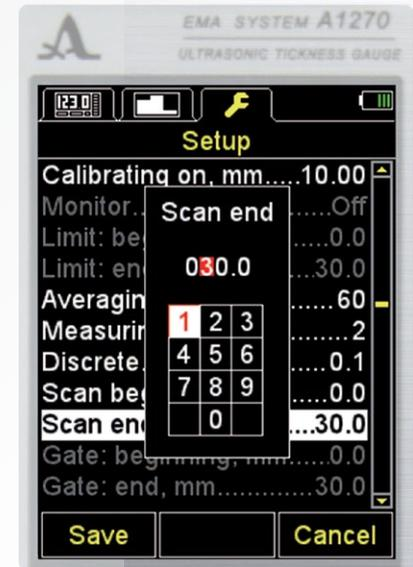

Figure 43
**F2** (edit) or  – open the table with numbers to set of the value for the end of scanning (Figure 43).